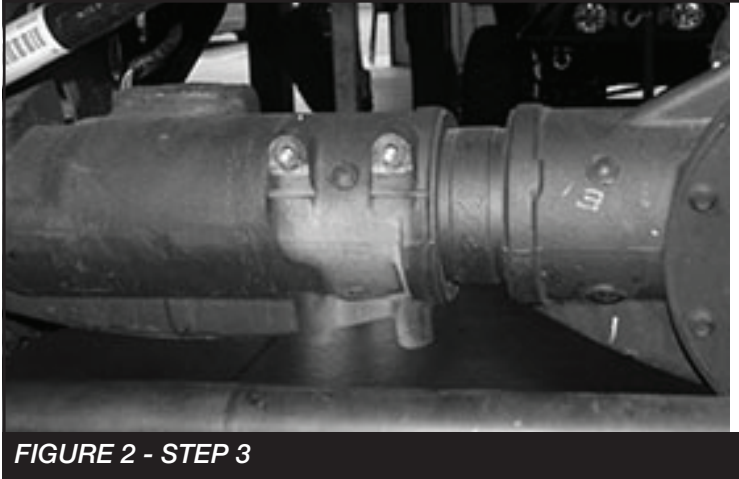

FIGURE 2 - STEP 3
3. Remove the (4) factory bolts from the center bracket and set aside for re-installation. Discard the factory center bracket. **SEE FIGURE 2**